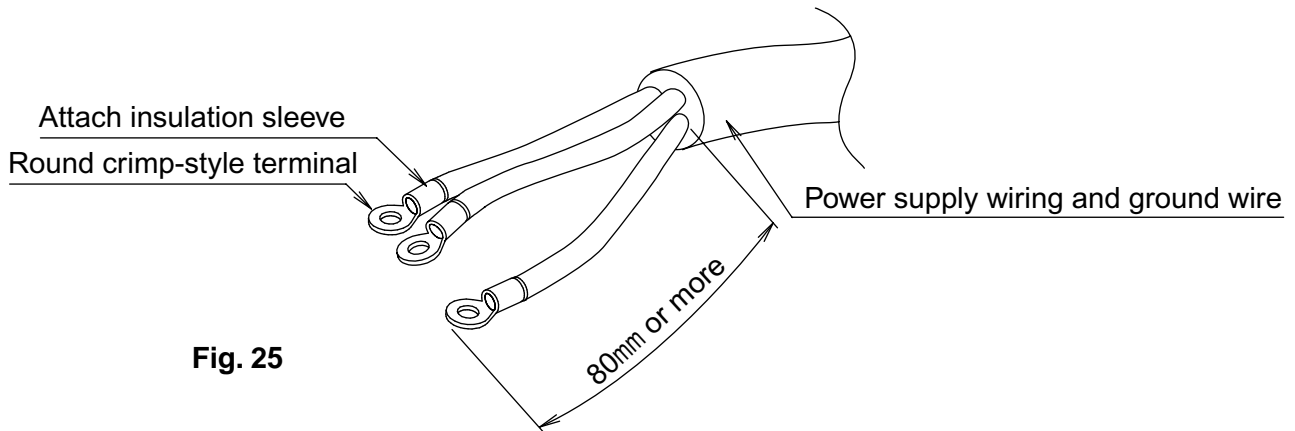

Fig. 25
Give enough slack to the wires between the clamp (4) and power supply terminal block. (Use Fig. 25 as a guide and allow at least 80 mm for removing the sheath.)
(Refer to Fig. 25)